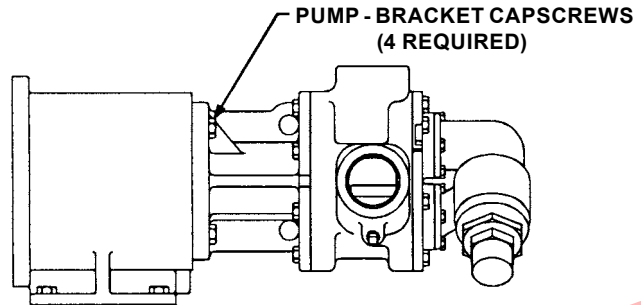

FIGURE 17
3. Support the pump from overhead and secure coupling bracket to avoid tipping when pump is attached. Using the canister as a guide, slide the pump assembly up to the coupling bracket through the smaller opening. Secure with the four 0.5\" cap screws. See Figure 17.